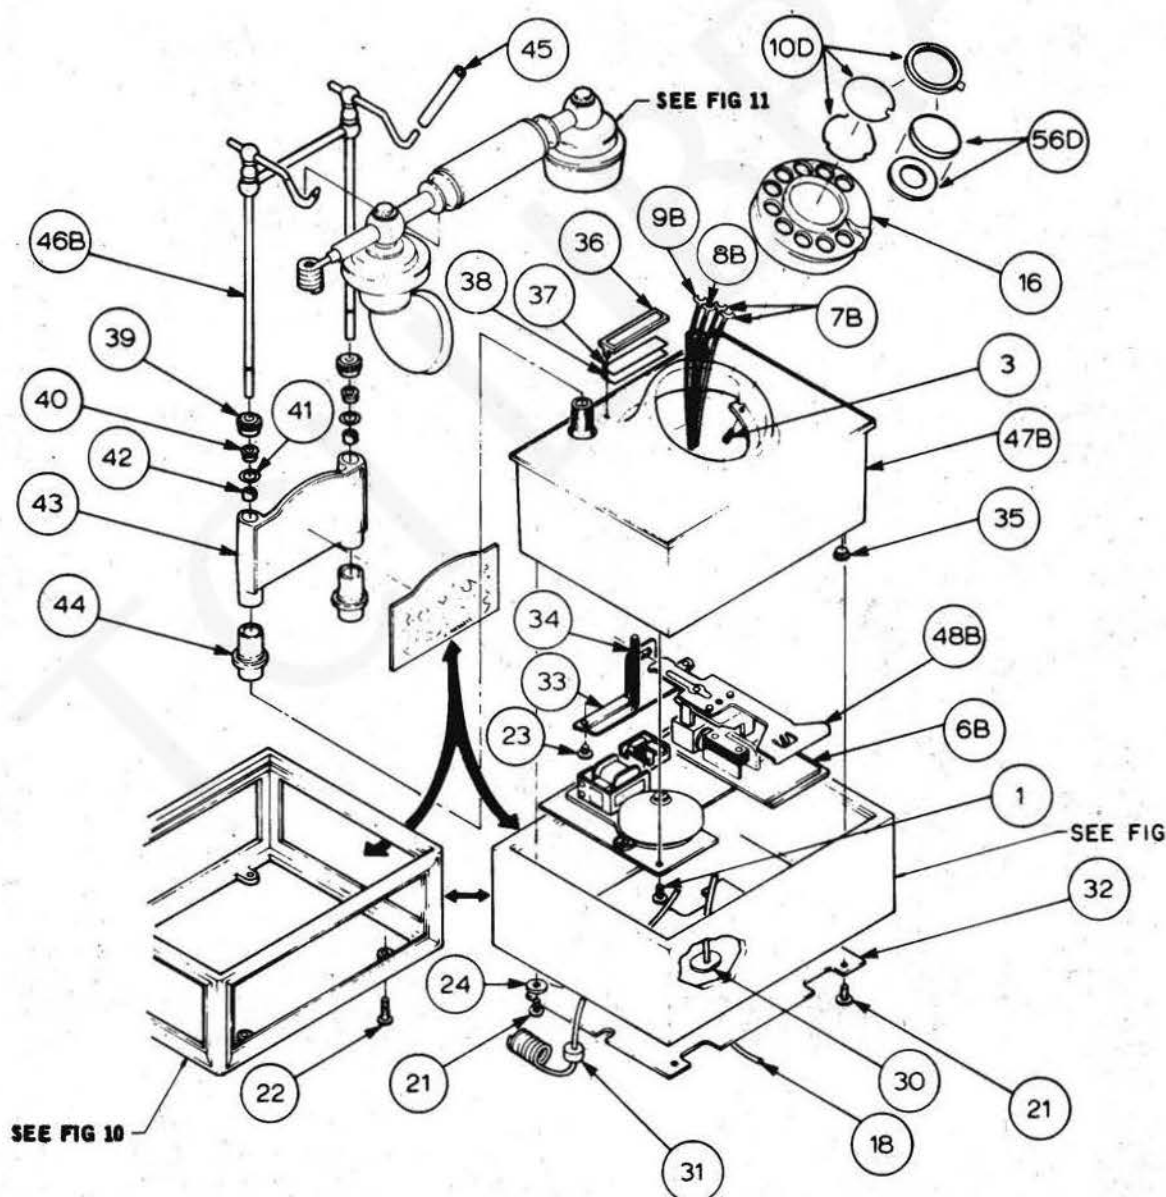

Fig. 8 — QSK400-Type Cradlephone — Assembly of Parts (Table G)
4.04 Assembly of parts information is shown in Fig. 8 through 15 while parts identification is listed in Tables G through N.